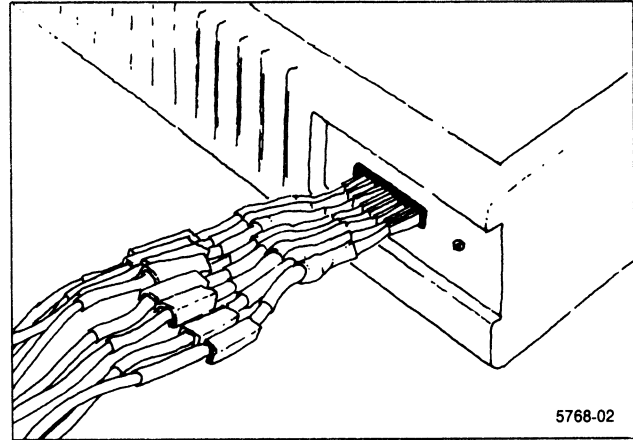

Figure 4. Connecting probes to front-panel calibrator pins.
1. Connect each data probe to the calibrator square pins on the front of its 91HS8 cabinet. Refer to Figure 4. (The Trig/Arms probe should not be connected to the calibrator.) Pins on the top row of the calibrator correspond to the signal pins on the probe tips; the bottom row of calibrator pins correspond to the reference pins on the probes. The calibrator pins are not channel-specific. A label on the probe-tip flex circuit shows which pin is signal and which is reference.